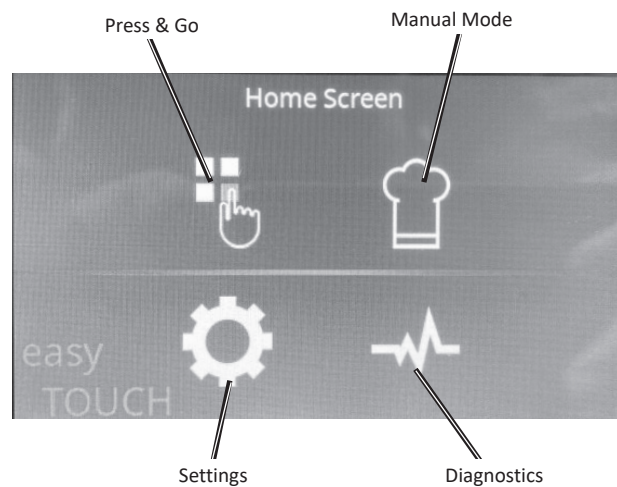

Figure 2
2. The **Home screen** displays 4 buttons: **Press & Go**, which takes you to the Recipes screen; **Manual mode**; the **Settings** screen; and the **Diagnostics** button, which provides basic information about your oven. (Figure 2)